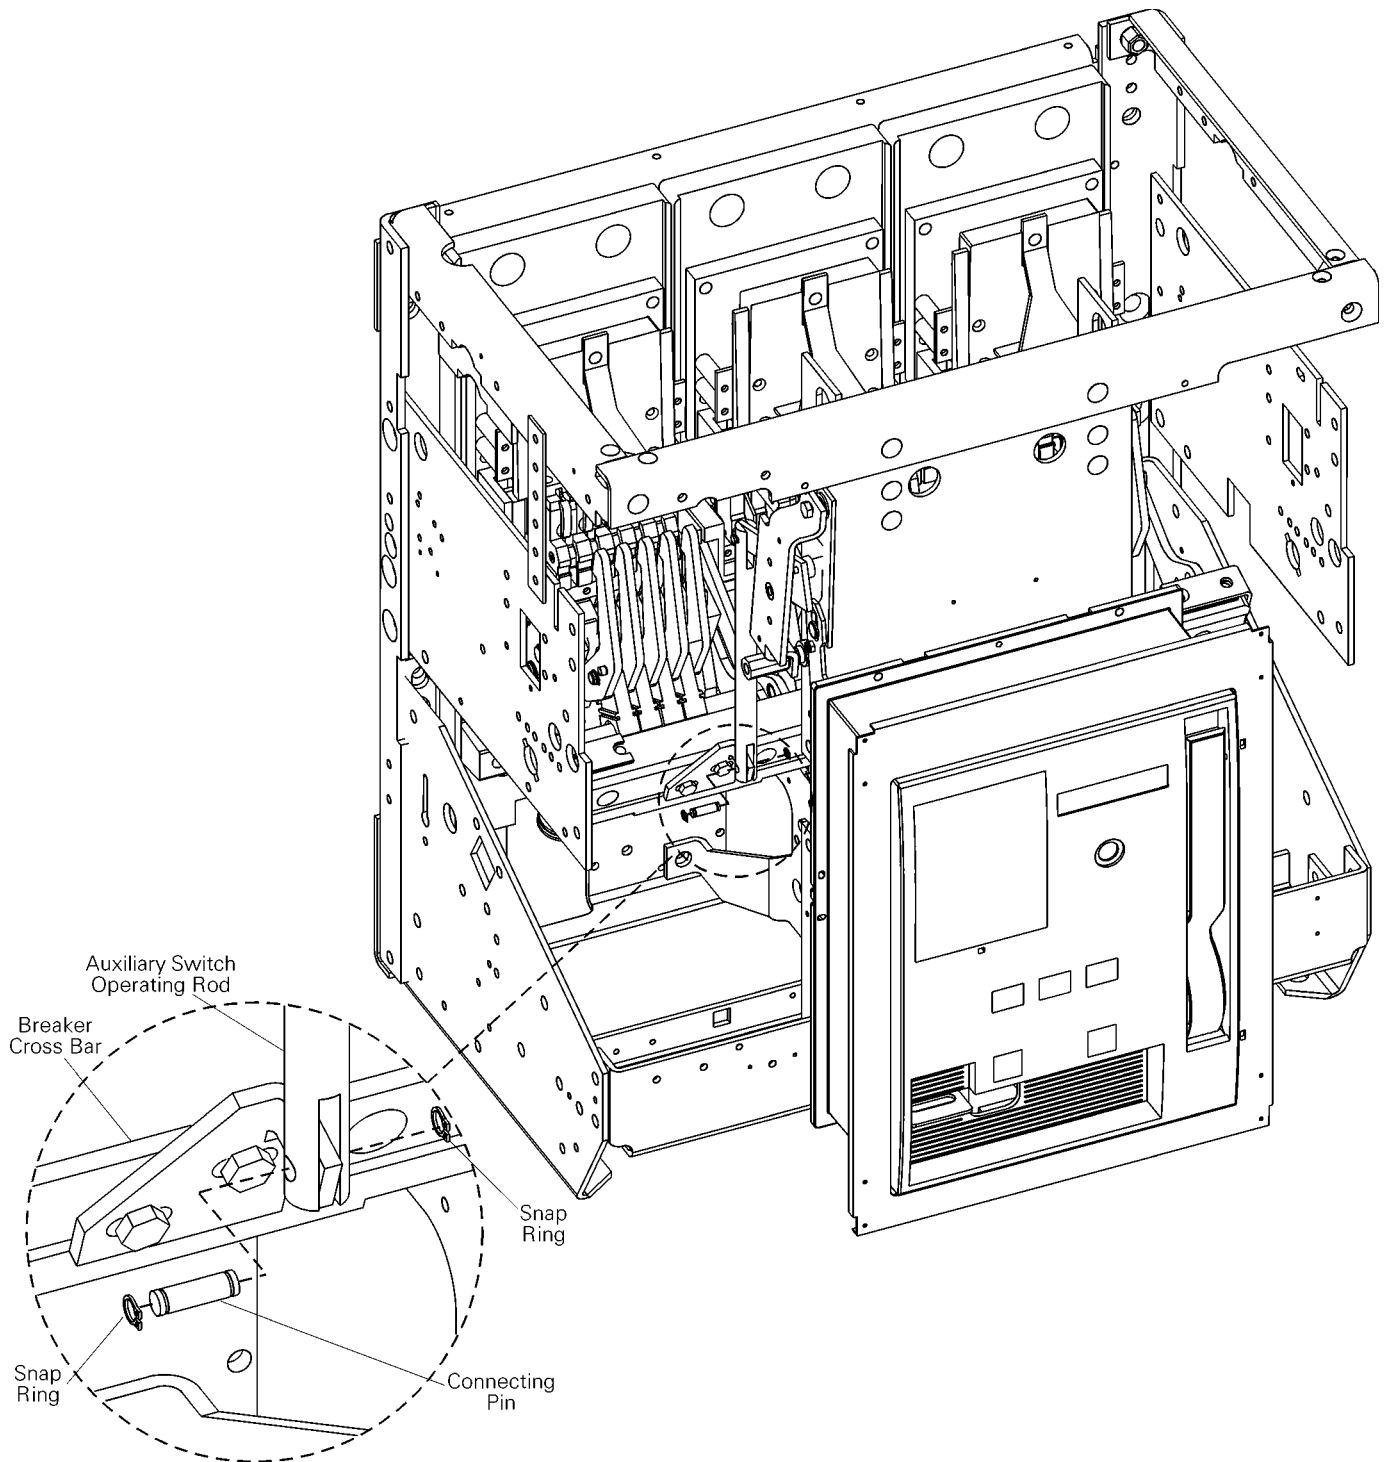

Figure 5-8. Disconnecting the auxiliary switch operating rod from the crossbar.
9. Remove one of the snap rings from the pin connecting the auxiliary switch operating rod to the cross bar, as shown in Figure 5-8, then remove the pin to disconnect the operating rod.
9. Align the holes in the auxiliary switch operating rod with the connection hole in the crossbar, then insert the connecting pin. Secure by reattaching the snap ring to the end of the pin, as illustrated in Figure 5-8.